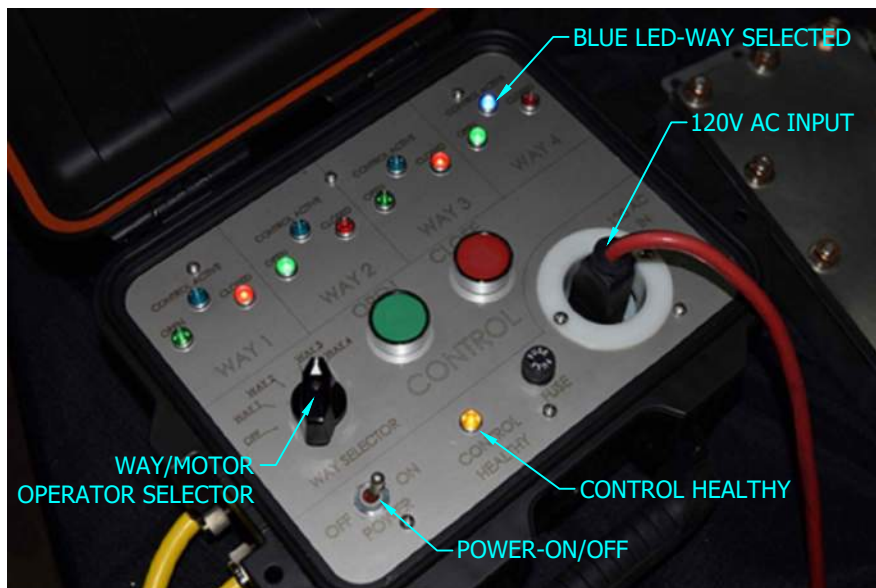

FIGURE 49 (L)
- (L) PENDANT CONTROLLERS ARE PROVIDED TO POWER AND CONTROL ALL THE MOTOR OPERATORS FROM OUTSIDE THE ENCLOSURE. THESE PORTABLE CONTROLLERS ARE DESIGNED TO PROVIDE FIELD PERSONNEL THE ABILITY TO PLUG INTO A JUNCTION BOX TO DETERMINE STATUS OF ALL THE MOTORS AND TO CONTROL MULTIPLE MOTOR OPERATORS LOCALLY WITH EXTERNAL 120V AC POWER PLUGGED INTO THE PENDANT CONTROL. SEE FIGURE 49.